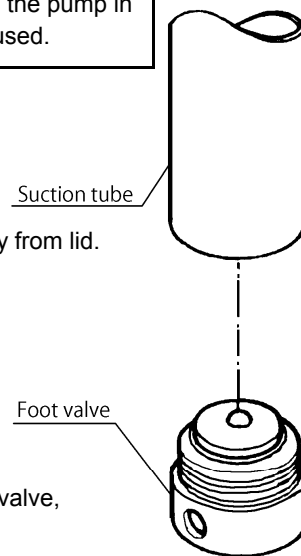

Fig.6
- 5) Turn foot valve with a wrench and check it. Wash foot valve if it is clogged with dirt. (Fig.6)